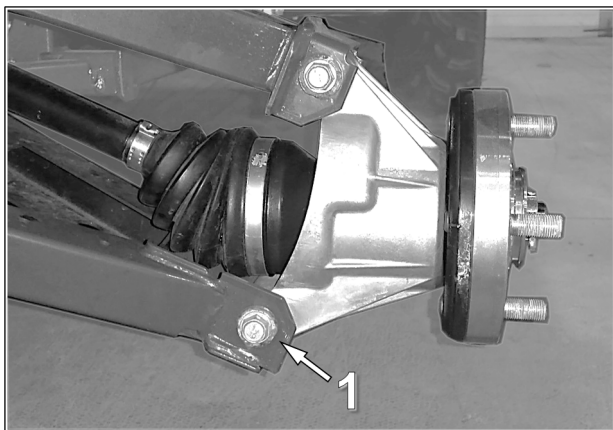

Fig. 6
5. Loosen and remove flange bolt (**1**) and decouple lower suspension arm from wheel hub. See Fig. 6